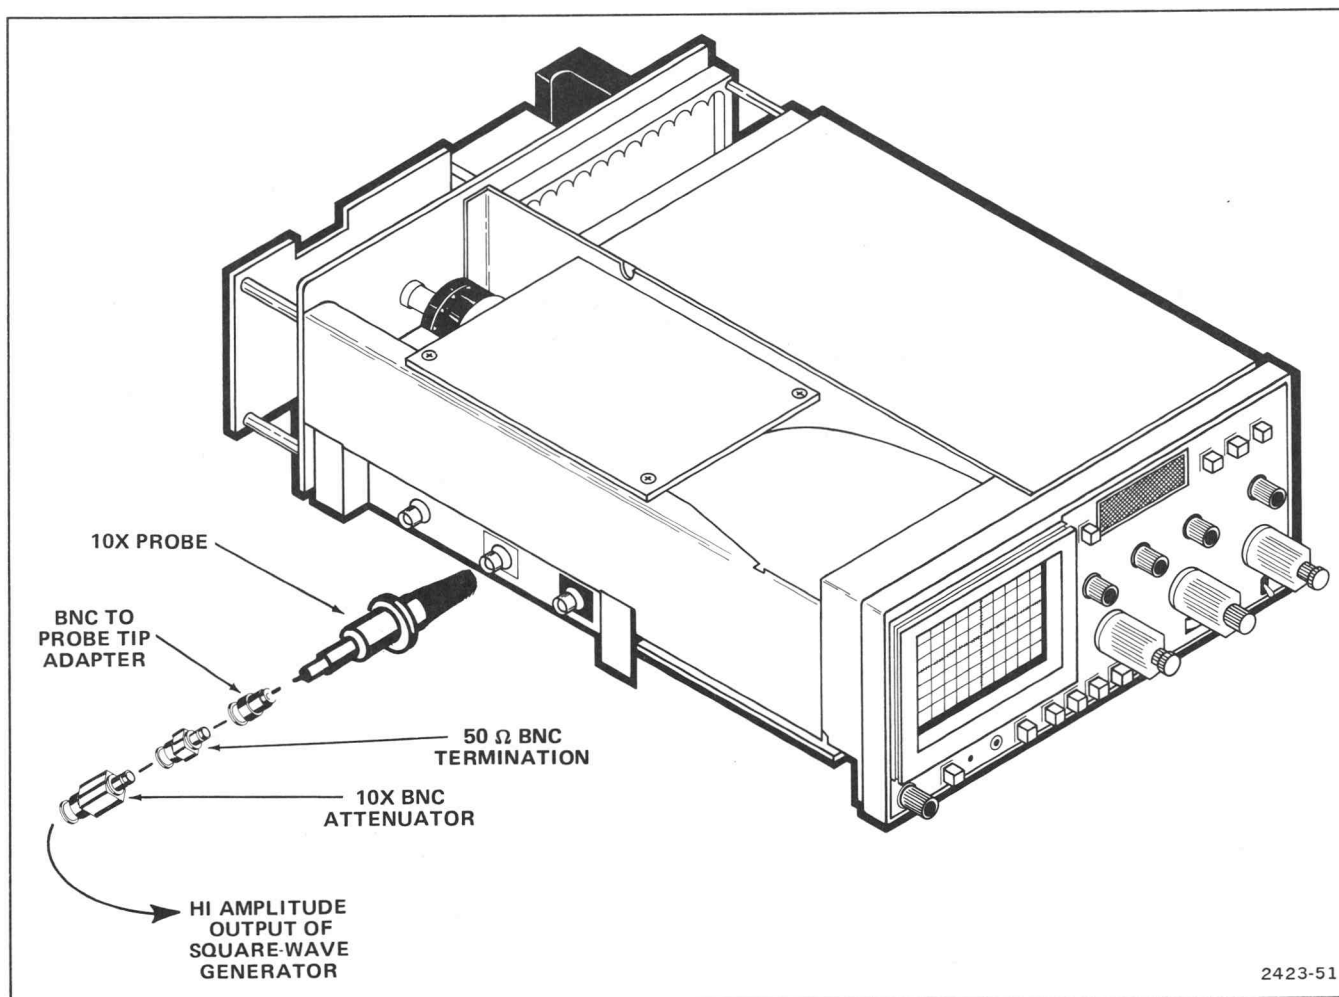

Fig. 4-1. Equipment setup for VOLTS/DIV compensation check.
- a. Connect test equipment to CH 2 input as shown in Figure 4-1.